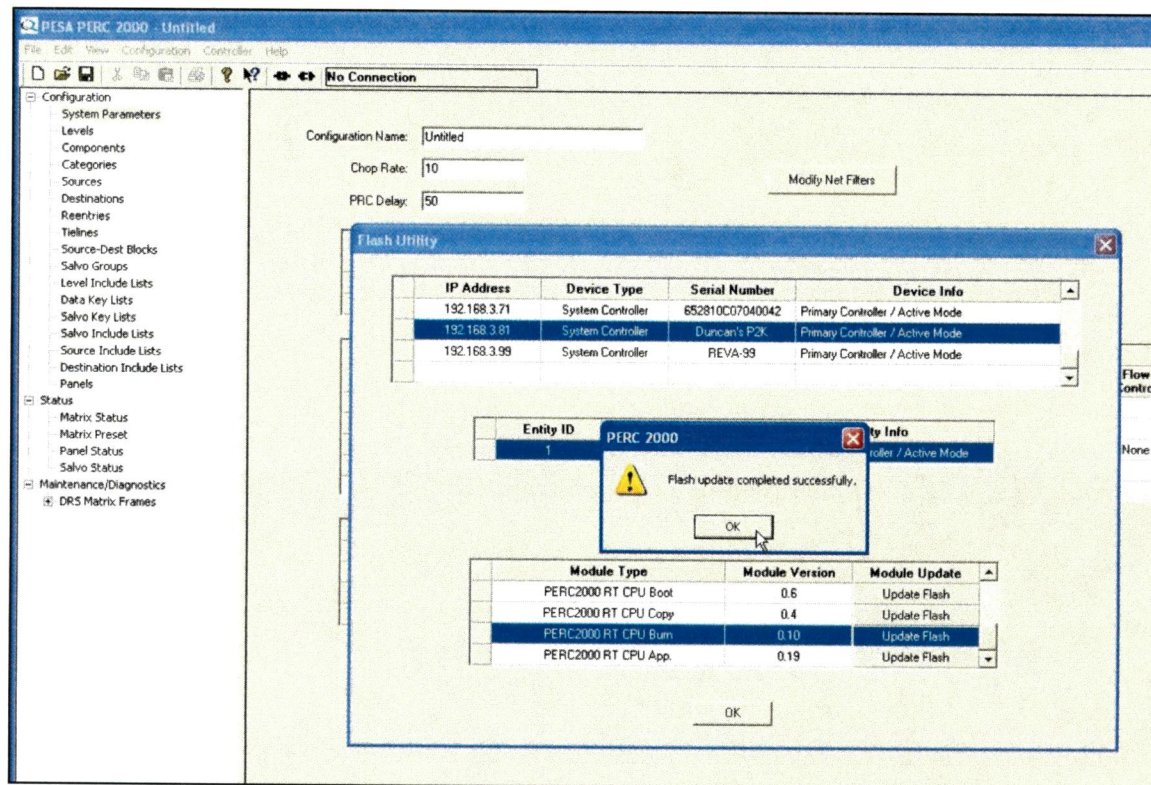

Figure 27. Flash Complete Notification
9. When the module has been reprogrammed, the GUI displays a window stating that the Flash Update was successful as shown in Figure 27. Click **OK** to clear the window. The P1K controller automatically reboots after completion of the firmware upgrade.